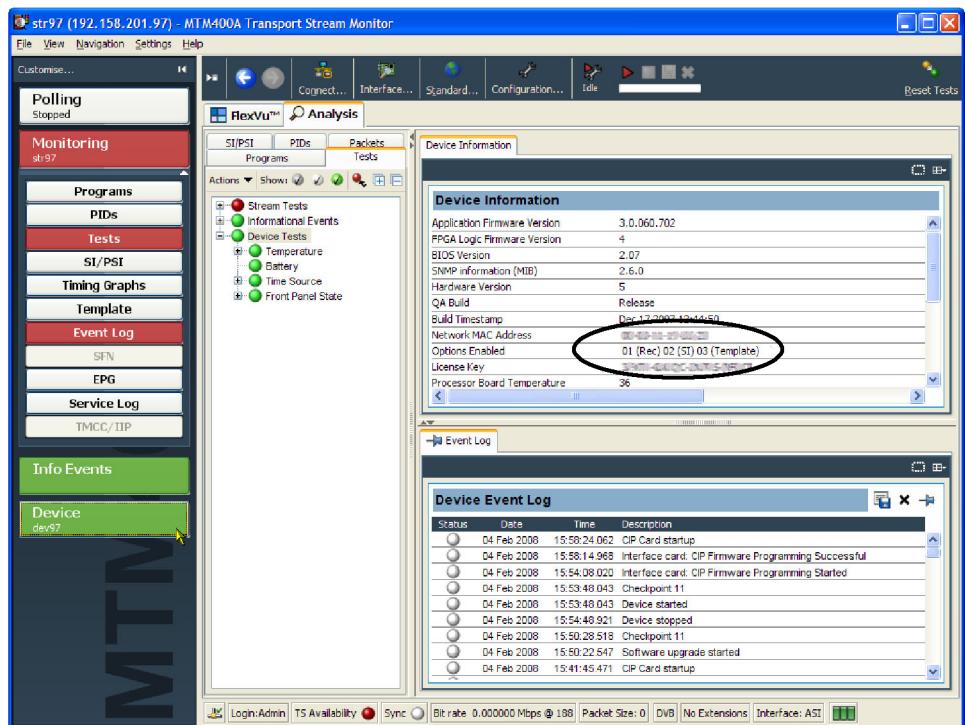

Figure 28: Device Information view (RUI v3.0 and above)
6. Click **Device** in the button bar of the RUI window to display the Device Information view. (See Figure 28.)